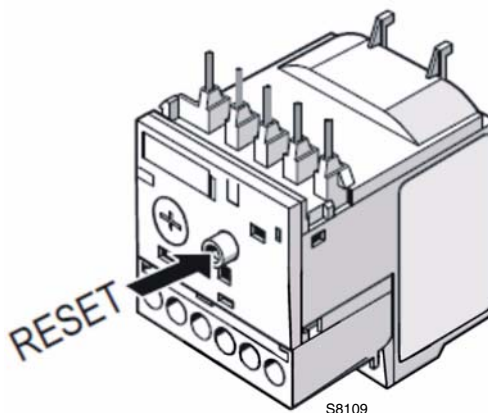

Fig. 23
- To reset, in the case of an intervention of the thermal relay, press the button “RESET” (Fig. 23).